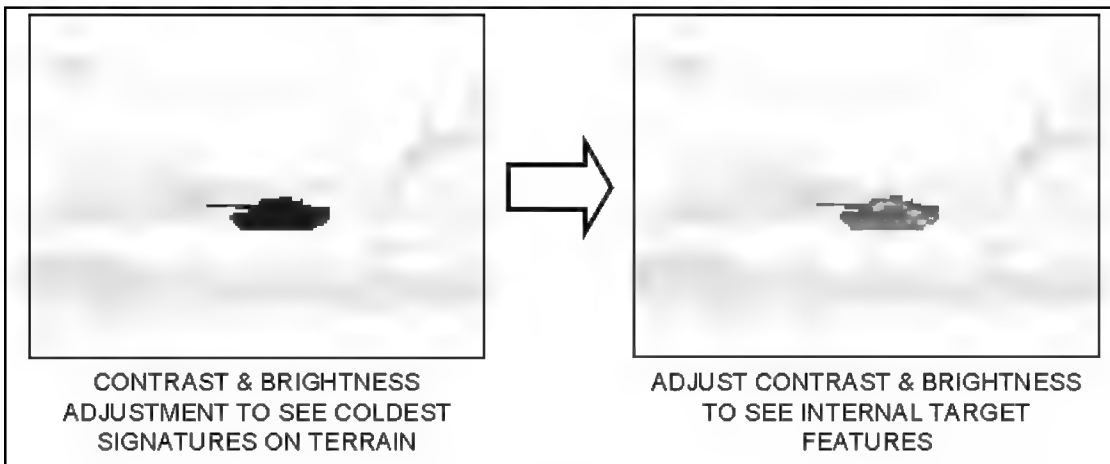

Figure E-53. Image adjustment for detecting cold, stationary targets.
f. **Cold Stationary Targets.** When the gunner sees a cold stationary target, he can assume there has been no recent activity. A cold target is cooler than its background. It appears as a dark green or black image against a lighter green background. Look for an IR signature that resembles a silhouette of a wheeled or tracked vehicle (Figure E-53).
(1) To find cold targets easily, adjust contrast up and brightness up so only the coldest signatures appear in the gunner's FOV and the rest of the scene is bright green.
(2) When the gunner thinks he has detected a target, he adjusts the contrast and the brightness so he can see the rest of the target's features.